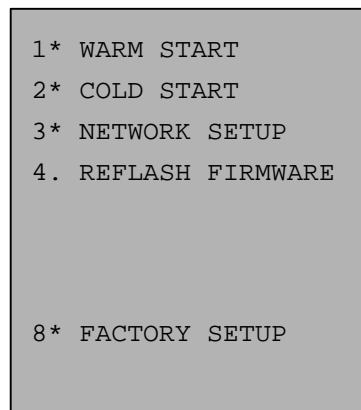

Figure 7-1. Startup Menu
1. Select the **COLD START** option from the Startup menu (see Figure 7-1).
If the S600 completes its start-up initialization sequence but does not automatically warm start, the S600 Startup menu displays (see Figure 7-1).
Startup menu options include: If the S600 completes its start-up initialization sequence but does not automatically warm start, the S600 Startup menu displays (see Figure 7-1).